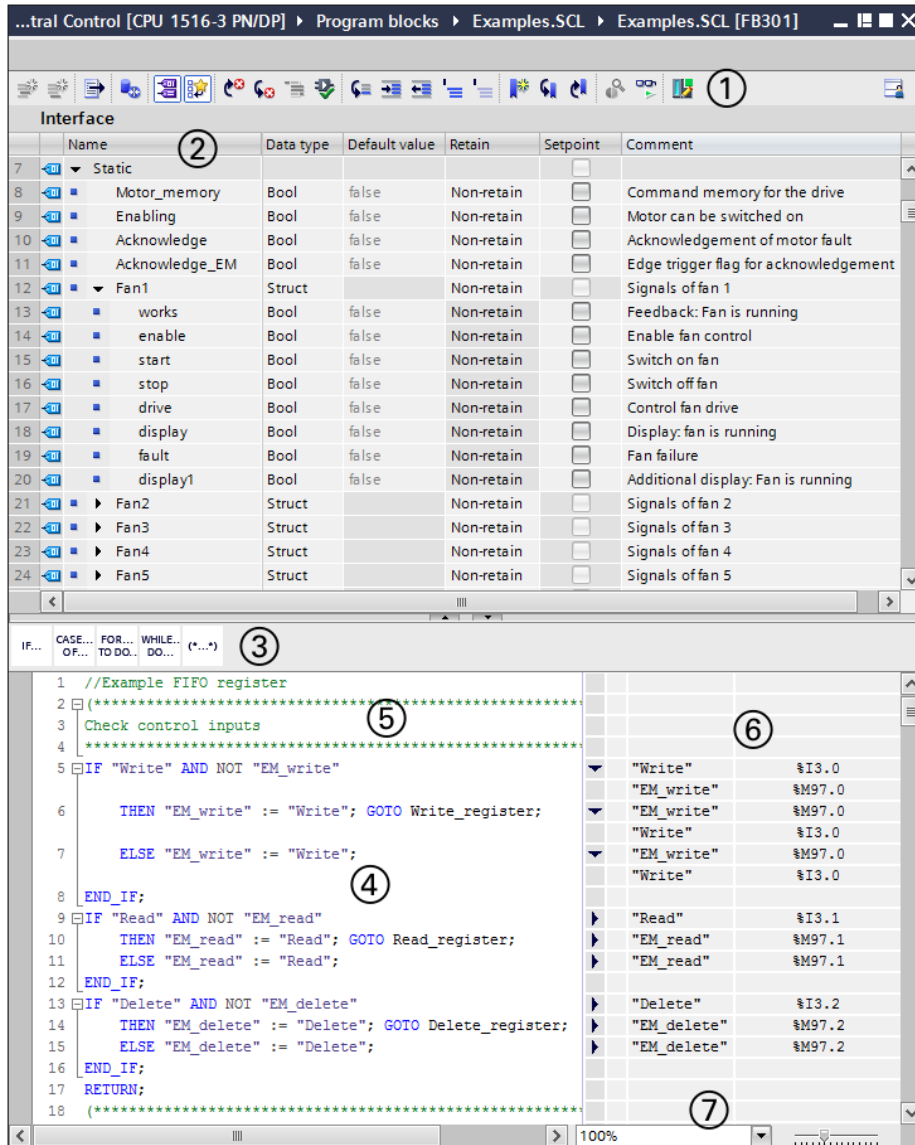

Fig. 9.1 Example of a block with SCL program
Fig. 9.1 shows the program editor's working window. The icons in the toolbar ① can be used to set the display of the working area, e.g. the opening and closing of the parameter list of blocks, and additional functions such as monitoring of the program status. The interface of the block ② in the upper part of the working window lists the block parameters and local data. The favorites bar ③ can be expanded by additional program elements. It can also be hidden. The control function, i.e. the list of SCL statements, is displayed in the working area ④.